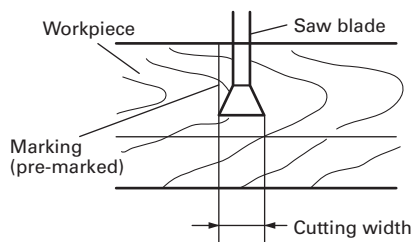

Fig. 18
- (1) Light up the laser marker and make a groove of about 3/16" (5mm) deep on the workpiece that is about 1-1/2" (38mm) in height and 3-1/2"(89mm) in width. Hold the grooved workpiece by vise as it is and do not move it. (Fig. 18)